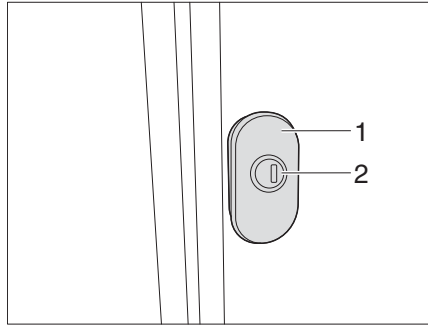

Fig. 50 Turnbuckle lock (variant 1)
- Insert the key into the locking cylinder (Fig. 50/51,1) and turn a quarter turn. The flap lock is unlatched.
- Pull on the turnbuckle lock (Fig. 50/51,2) and rotate anticlockwise through 180°. The external flap is open.